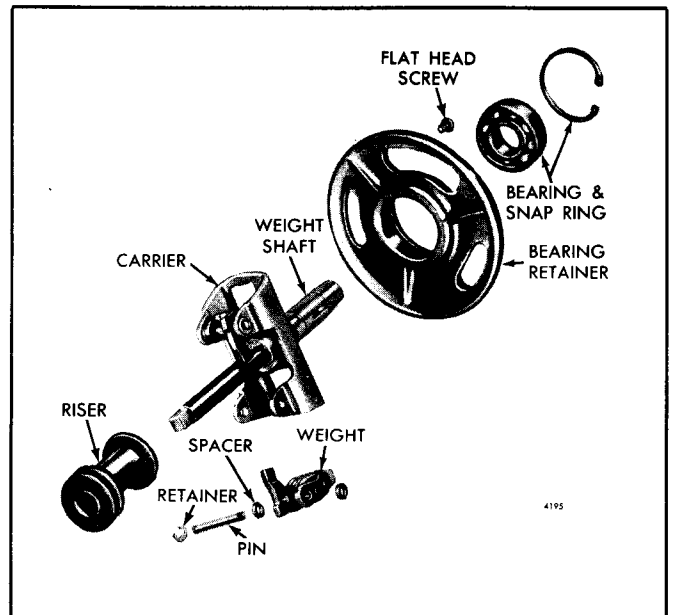

Fig. 5 - Governor Weight Details and Relative Location of Parts
2. Remove the small flat head screw which holds the bearing retainer in place (Fig. 5).
1. Press the bearing retainer from the weight shaft (Fig. 5).